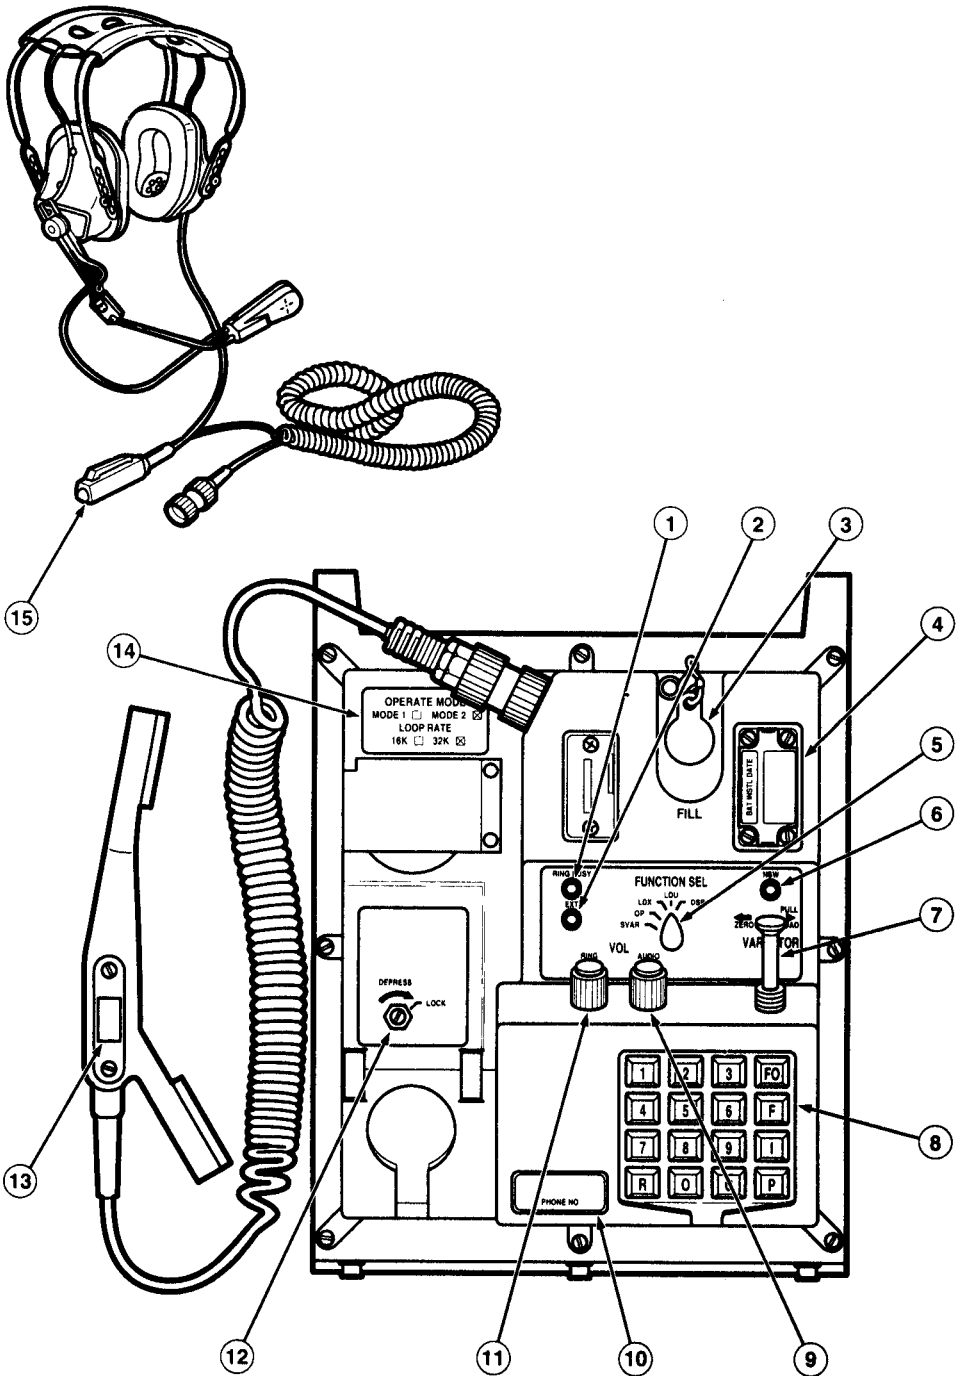

Figure 2-1. KY-68 Controls and Indicators.
See paragraph 2.1 and figure 2-1 for location and description of major components.
See figure 2-1.
Your KY-68 can be used in full duplex or half duplex, and has two operating modes. An operating mode label is on the upper left corner of the KY-68 (see figure 2-1, item 14).